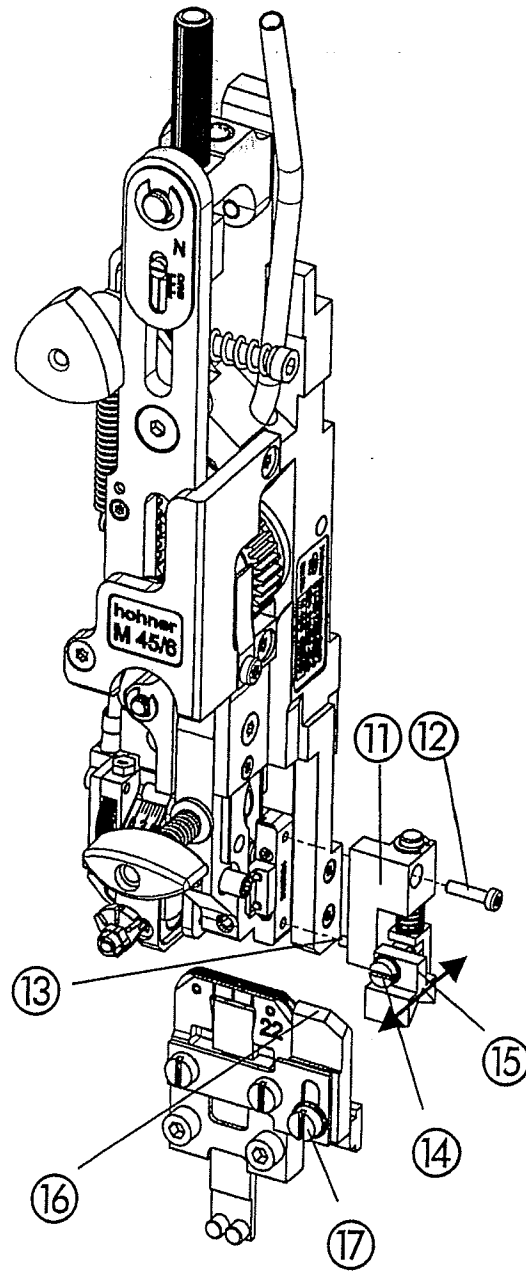

Fig. 17
- Fig. 17 -
- In order to install the holding down device ⑪, insert the guide pin into the borehole on the bender and tighten the fastening screw ⑫.
- The centering prism ⑮ can be moved back and forth by turning the adjusting screw ⑭.
- Move the centering prism ⑮ backward or forward until it is precisely aligned with the prism of the slider ⑯.
- Adjust the height of the prism ⑮ (approx. 0.5 mm above the clincher box) by moving it in the slot and tighten the fastening screw ⑰.